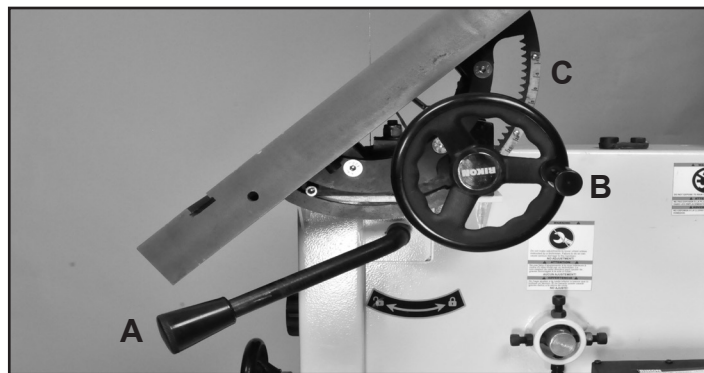

FIGURE 11
1. At the rear of the saw, loosen the Quick Locking Handle (#32C) on the table trunnion by pulling it upward. Fig. 11, A.
2. Turn the table tilting Handwheel (#16C) to adjust the table to the desired angle. Fig. 11, B. Use the angle indicator scale on the trunnion bracket (C) to find the desired angle.